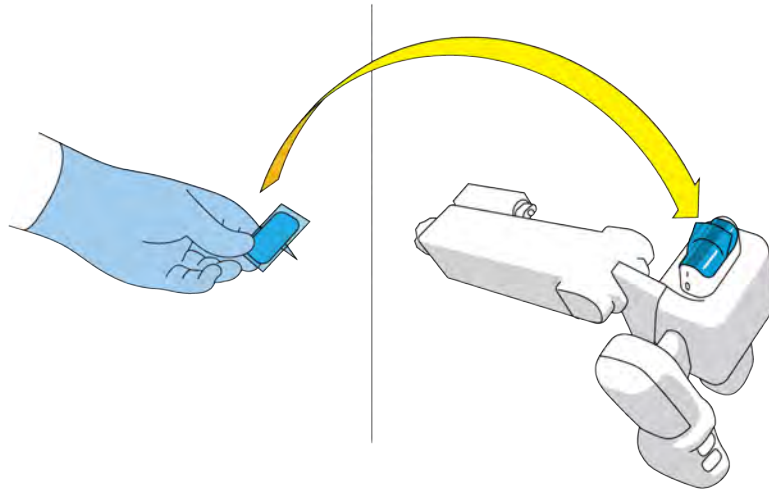

Figure 10. Gel Pad attached to Ultrasound Transducer.
3. Attach Gel Pad to distal end of Ultrasound transducer (Figure 10).